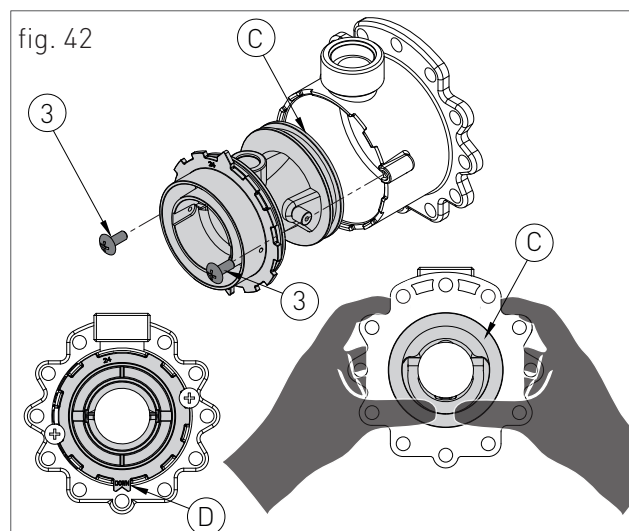

fig. 42
- > remove the two screws '3' [fig. 42] and apply pressure on the rear side of venturi 'C' [fig. 42];
- > replace the body venturi with the one suitable for the type of supply gas (cod. 30-00207 for methane / cod. 30-00237 for PROPANE) and make sure the tooth 'D' [fig.42] is adjusted downwards on the aluminium ring nut (see fig. 42);